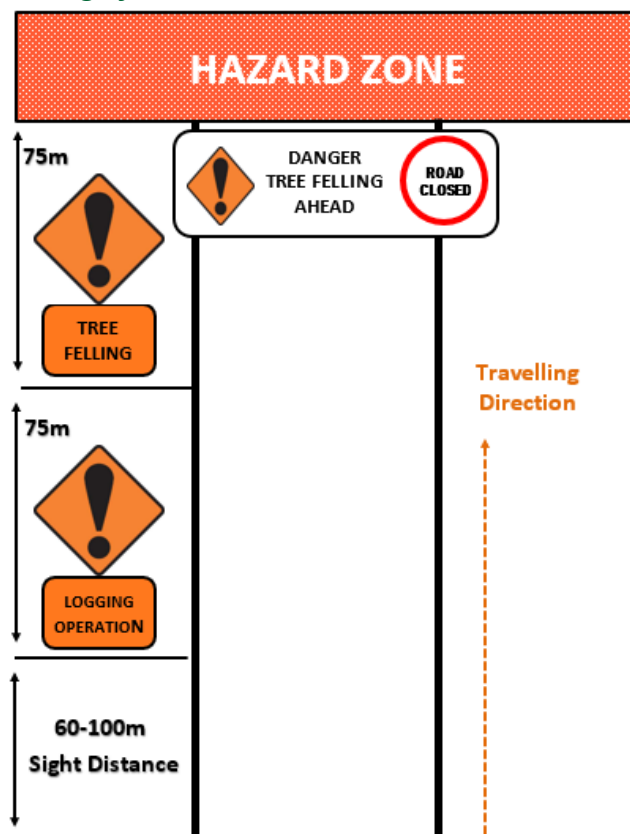

Fig 6
- Road closed sign in centre of road with Danger tape fixed from the sides of the road to the top section of the sign (Fig 6).